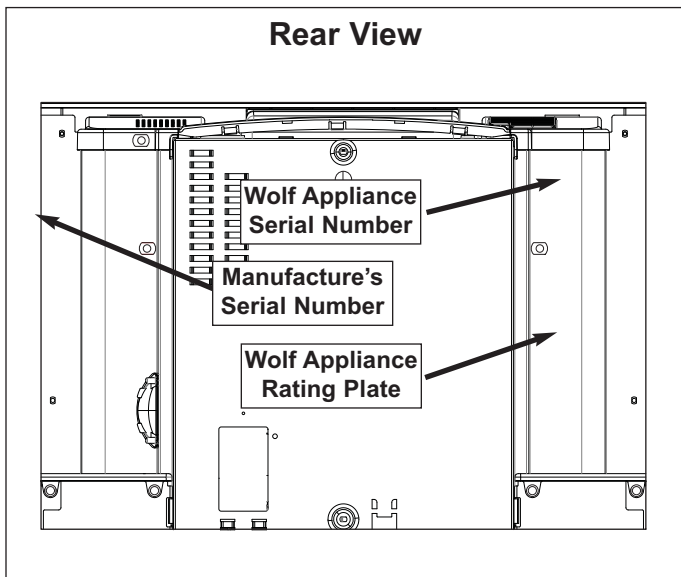

Figure 1-1. Rating Plate Label Locations
- There are three information plates on the EC24. On right hand side is the manufacture’s serial number. On the left hand side is Wolf Appliance rating plate and a second plate with Wolf Appliance serial number. (See Figures 1-1, 1-2, and 1-3).